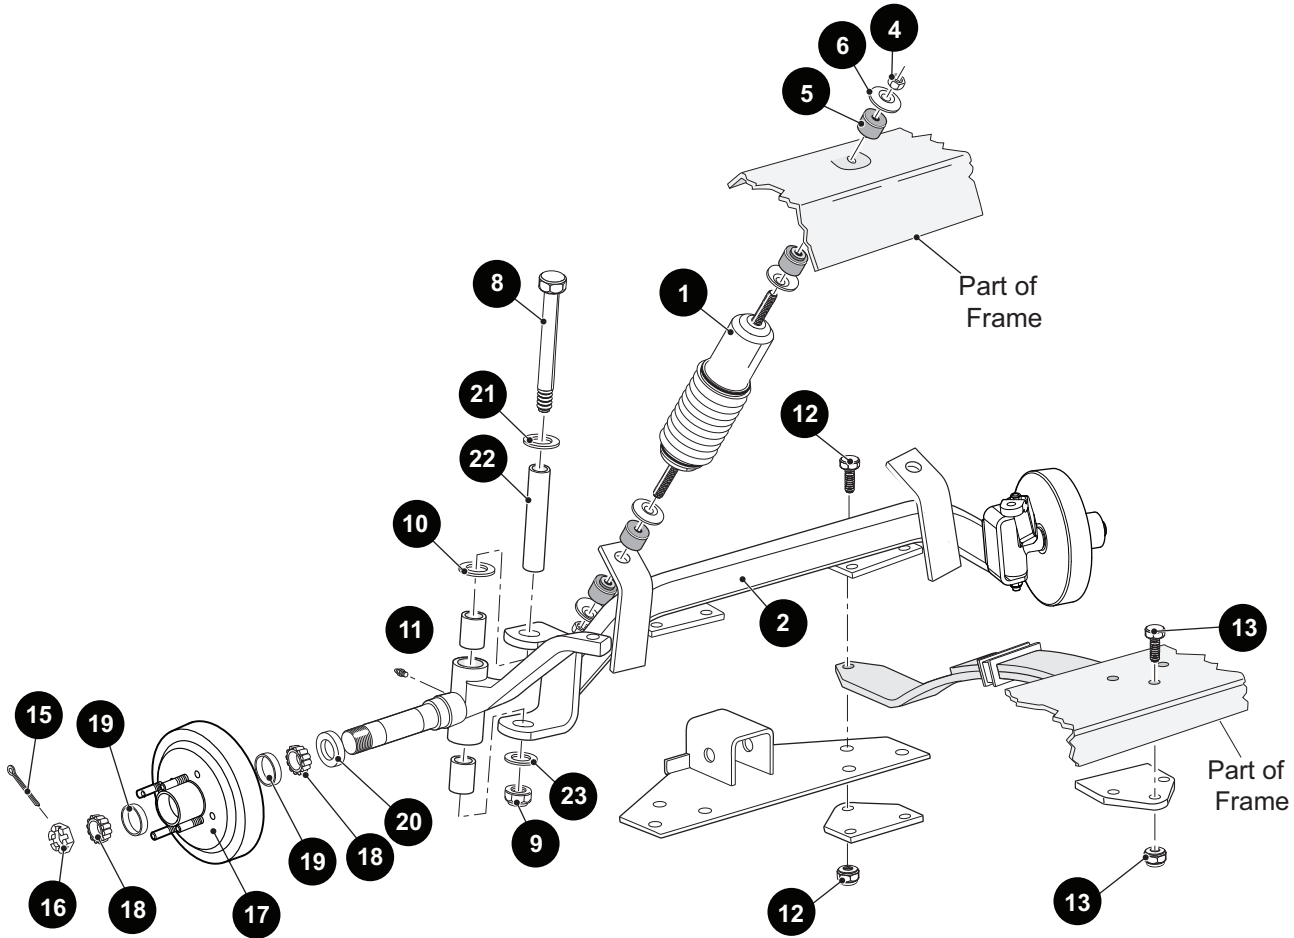

Fig. 2 Front Suspension Components
- When the front axle is replaced, it must be aligned to the frame. The distance from the center bolt at rear of left spring to the center bolt at front of right spring must be the same as the distance from the center bolt at rear of right spring to the center bolt at front of left spring (Ref Fig. 2).
- When springs are replaced, the front axle must be aligned to the frame. The distance from the center bolt at rear of left spring to the center bolt at front of right spring must be the same as the distance from the center bolt at rear of right spring to the center bolt at front of left spring. (Ref Fig. 2) Tighten the spring hardware to 35 - 50 ft. lbs. (50 - 70 Nm) torque.